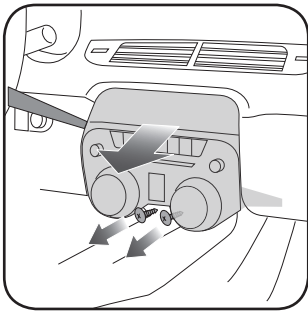

Fig. 2.1
1. Remove (2) 7mm screws securing the bottom of the radio bezel. (Fig. 2.1)
2. Using a panel tool, gently release the clips securing the radio bezel to the dash. Disconnect the wiring harness on the back of the OEM panel. (Fig. 2.1)